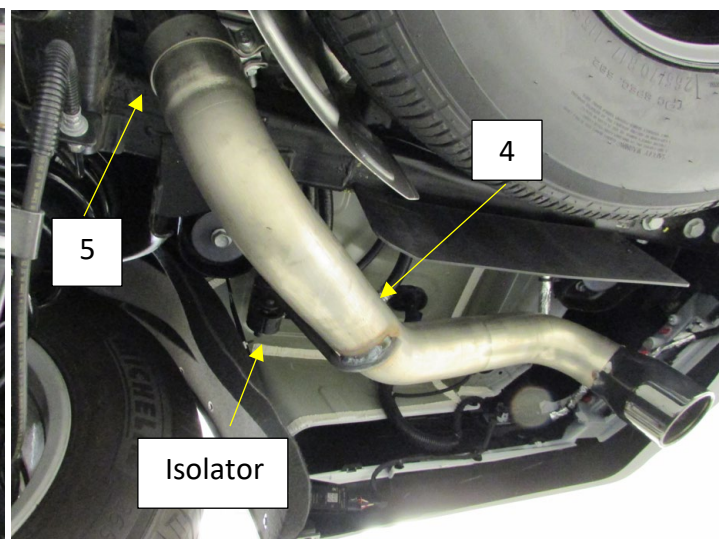

Figure.7
11. Install a 3" band clamp (5) on to the expanded and notched end of the tail pipe (4) with the bolt towards the heatshield and nut facing out. **Fig.7**
12. Install the tail pipe (4) on to the over axle pipe (3), Install the hanger rod into the Isolator then tighten the clamp to allow for adjustment. **Fig.7**